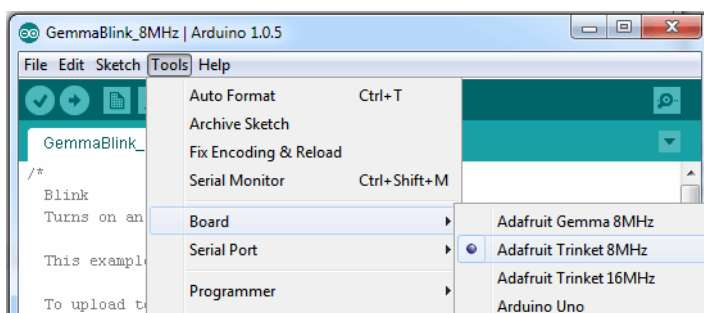
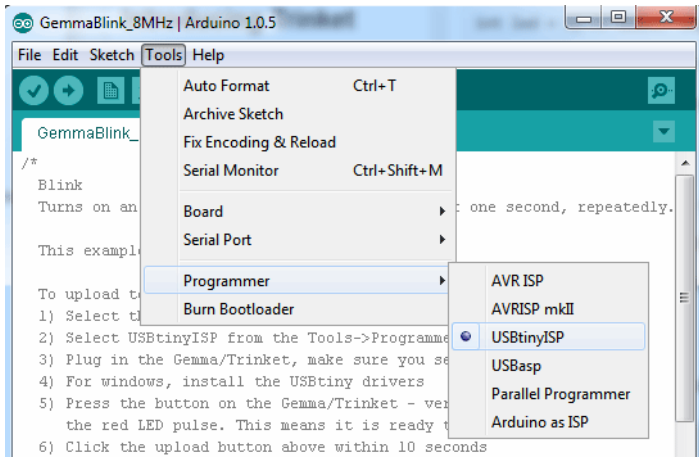

Figure 3-5. Select the Trinket as your desired board in the Arduino IDE
Figure 3-6. Select *USBtinyISP* as the programmer for the Trinket
1. Select the Adafruit Trinket 8 MHz board from the Tools→Board submenu, as shown in Figure 3-5.
2. Next, select USBtinyISP from the Tools→Programmer submenu (see Figure 3-6).
You need to select the correct board type and programmer, as in Figure 3-5 and Figure 3-6. This is crucial, but easy to overlook. Check these settings frequently if you can't otherwise resolve error messages. This could save time and tears.